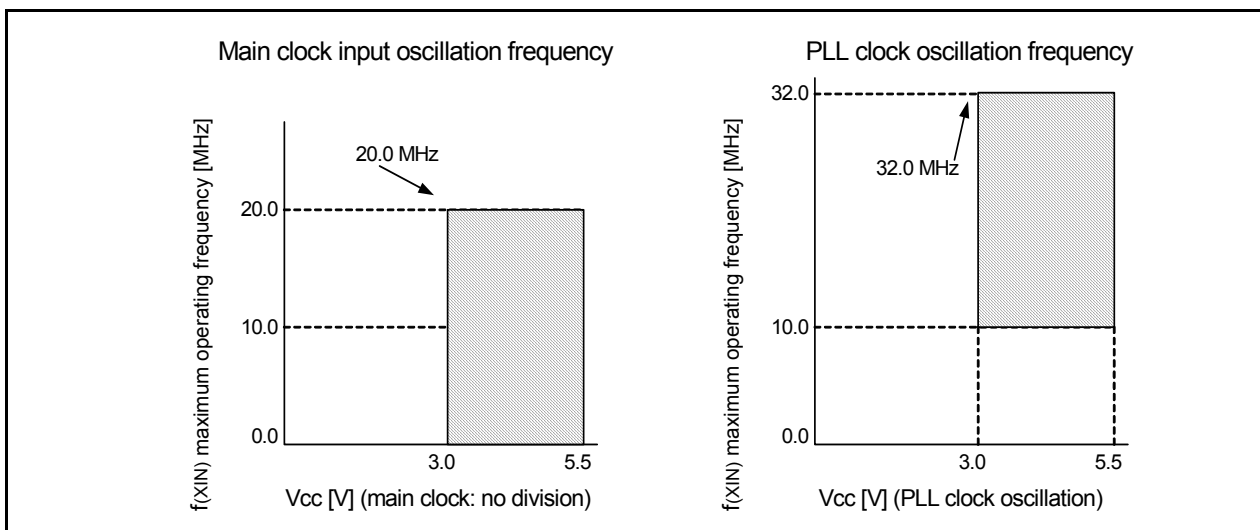

Figure 5.1 Main clock input oscillation frequency, PLL clock oscillation frequency
- Refer to "Figure 5.1 "Main clock input oscillation frequency, PLL clock oscillation frequency"" for the relationship between main clock oscillation frequency/PLL clock oscillation frequency and supply voltage.